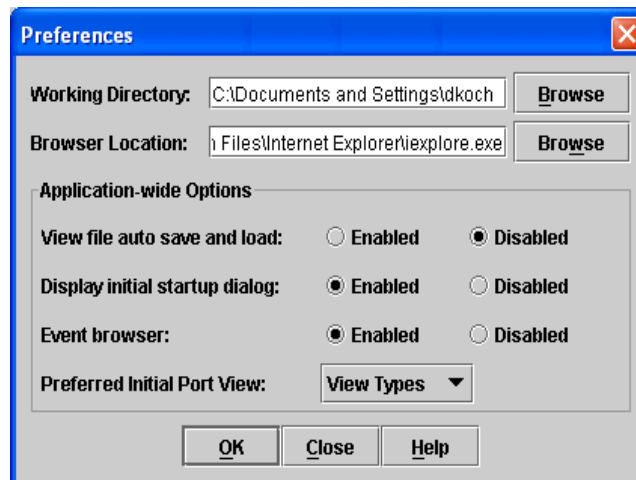

Figure 2-5. Preferences Dialog – SANsurfer Switch Manager
- Enable (default) or disable the Event Browser. Refer to "Displaying the Event Browser" on page 3-11. If the Event Browser is enabled using the Preferences dialog as shown in Figure 2-5, the next time SANsurfer Switch Manager is started, all events will be displayed. If the Event Browser is disabled when SANsurfer Switch Manager is started and later enabled, only those events from the time the Event Browser was enabled and forward will be displayed.